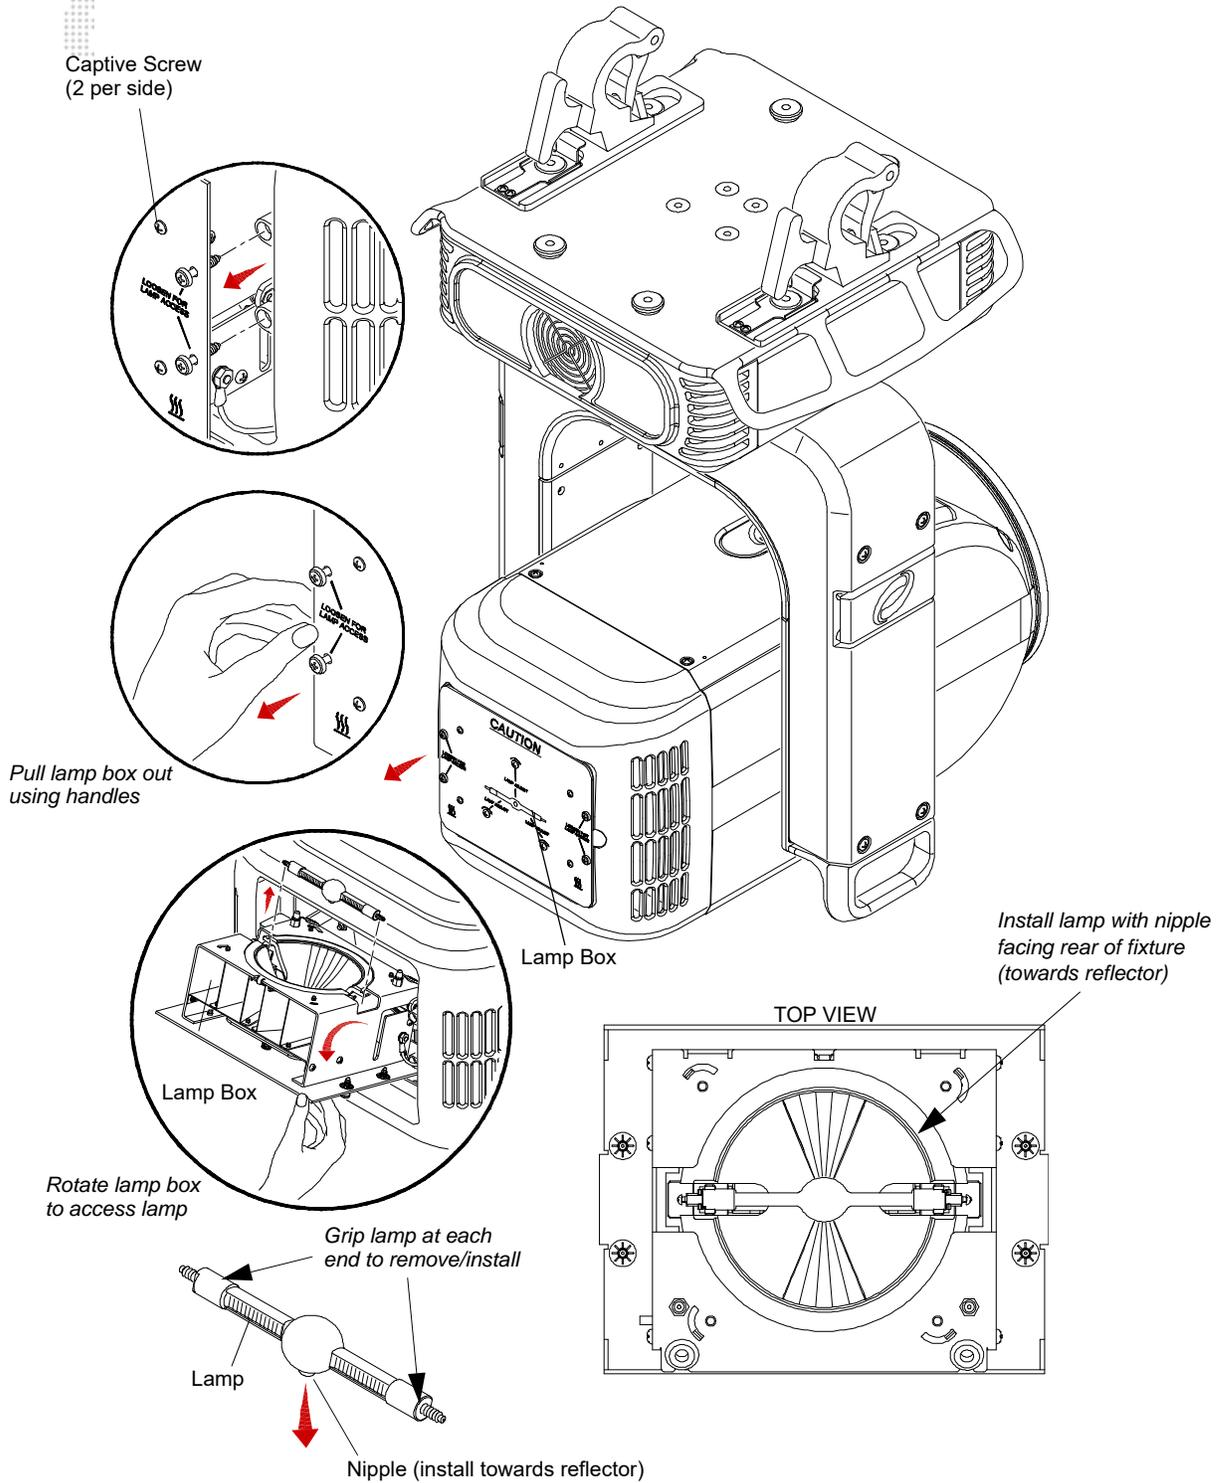

Figure 3-9: Replacing the Lamp
- Step 3. At lamp access door, loosen four captive screws (two on each side). Refer to **Figure 3-9** on next page.